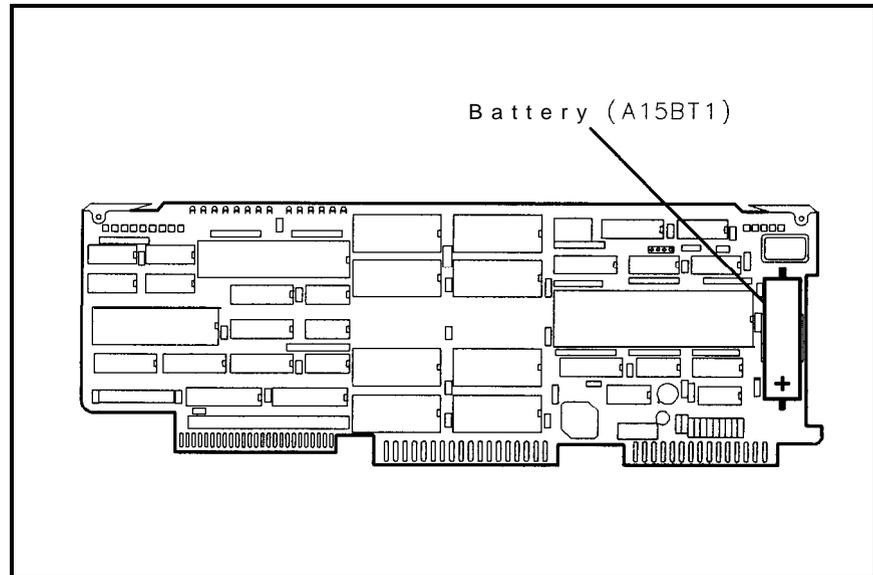

Figure 1-8. Location of Battery on A15 Controller Assembly
6. Remove the A15 controller assembly. Locate the battery on the A15 assembly. Figure 1-8 shows the location of the battery.
7. Replace the battery with a new one (HP part number 1420-0331). Be sure to install the battery with the polarity shown in Figure 1-8.